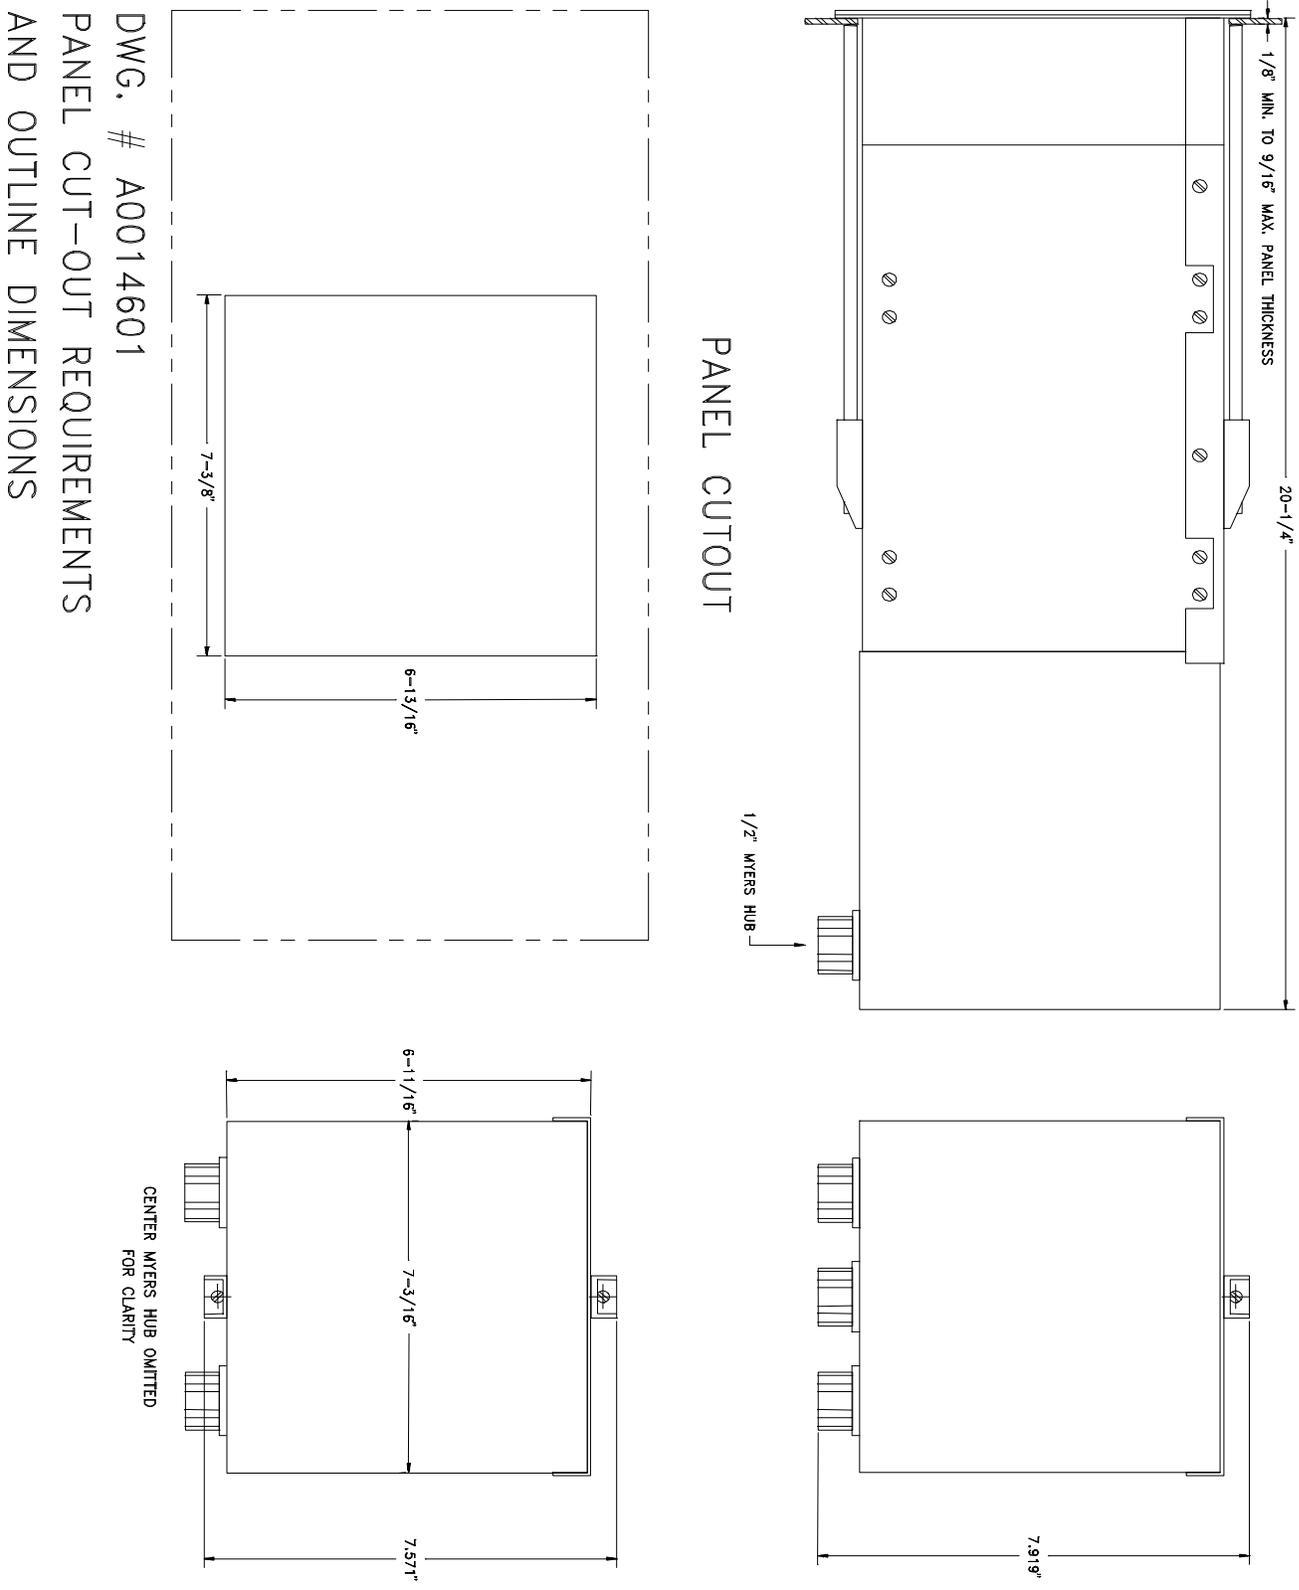

Figure 1 Panel cutout and outline dimensions
The Refiner Controller is designed to be flush panel mounted. Appropriate mounting hardware is supplied by TECO. Outline dimensions and panel cutout requirements for case mounting are shown in Figure 1
1. Prepare panel cutout per Figure 1.